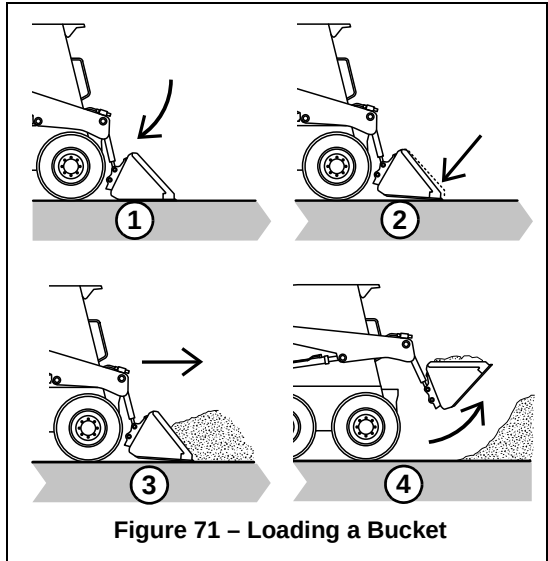

Figure 71 – Loading a Bucket
1. (Figure 71) Lower the bucket to the ground.